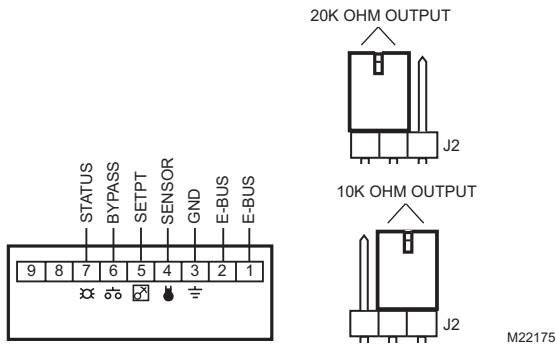

Fig. 6. Wiring diagram for T7771A Wall Modules.
Attach the wires from the device sensor terminals to the appropriate wall module terminals. See Fig. 6.
4. Verify wall module wiring with Fig. 6.